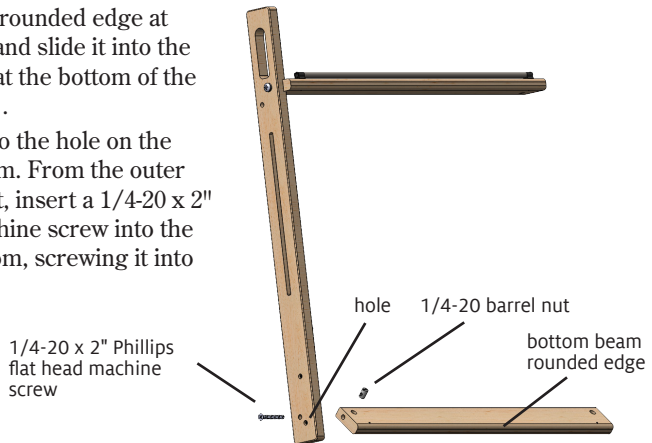

FIGURE 3: ATTACH THE BOTTOM BEAM
3. Attach the bottom beam: Orient the bottom beam with its rounded edge at the front of the loom and slide it into the slanted inner groove at the bottom of the left upright (Figure 3).